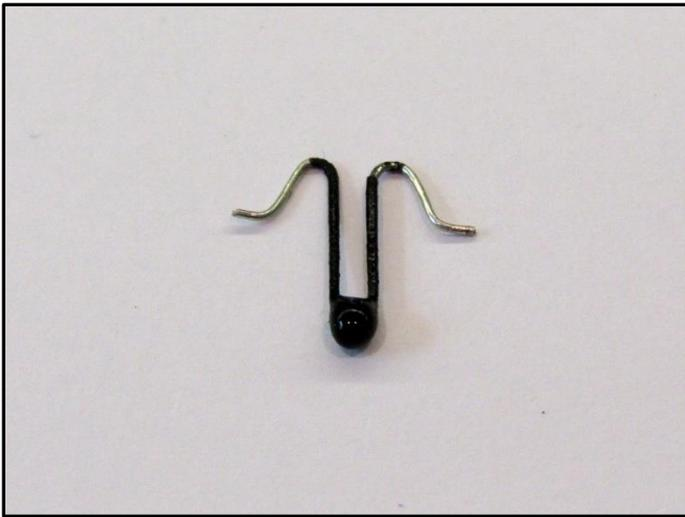

Figure 4a: Thermistor leg shape.
8. Cut the thermistor leads to 15mm length and carefully bend them in to a U shape as shown in figure 4a. Place the thermistor in to the hole filled with heatsink compound and then solder the leads onto the pads as in figure 4b, taking care the leads do not touch each other.